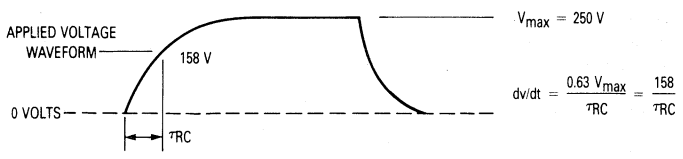

Figure 6. Static dv/dt Test Circuit
2. This is static dv/dt . See Figure 6 for test circuit. Commutating dv/dt is a function of the load-driving thyristor(s) only.